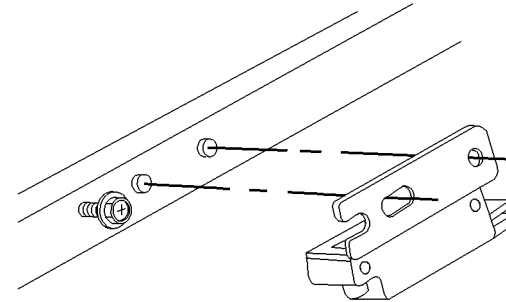

Figure 2 Installing Registration Sensor
1. When installing Registration Sensor align holes with bumps and tighten screw (Figure 2).